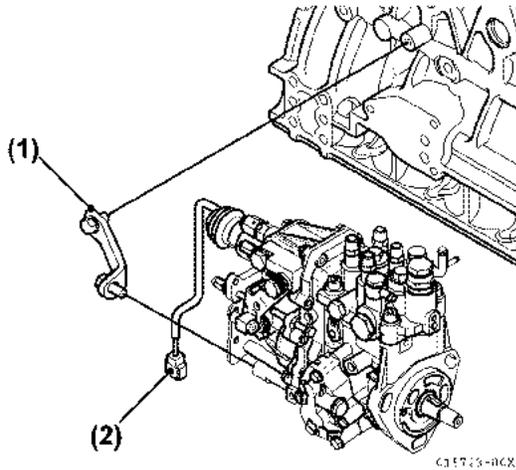

Figure 6-48
6. Reinstall the rear bracket (Figure 6-48, (1)) to the fuel injection pump. Tighten the rear support bolts.
7. Reconnect the throttle linkage and the stop solenoid connector (Figure 6-48, (2)).